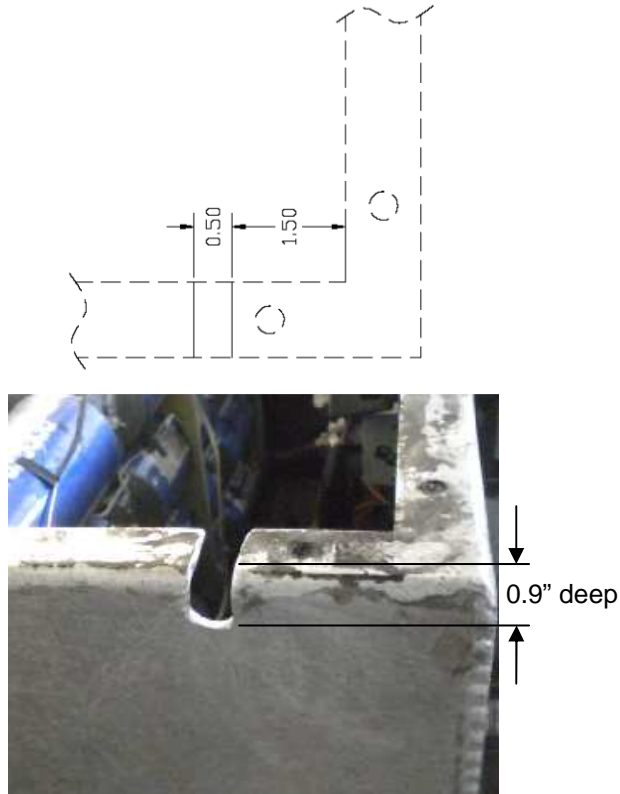

Fig 6 – Fire suppression notch
- h. Mark the location of the .9" deep notch for the suppression lines/harness. After cutting out the notch, ensure edges are smooth and free of burrs and add rubber channel (**NFI PN 483401**). Fig 6.